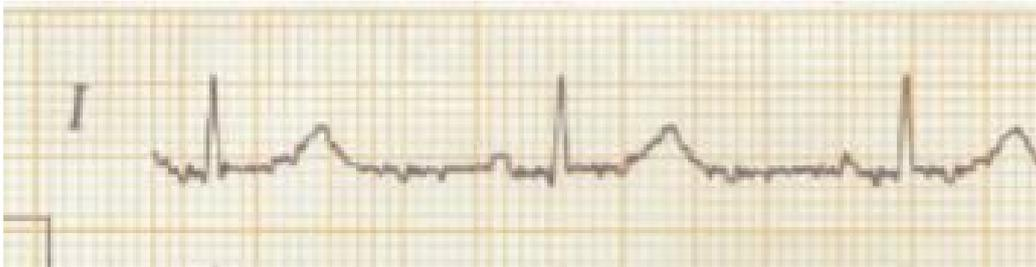

Figure 9-2
6) EMG Interference (as shown in Figure 9-2)